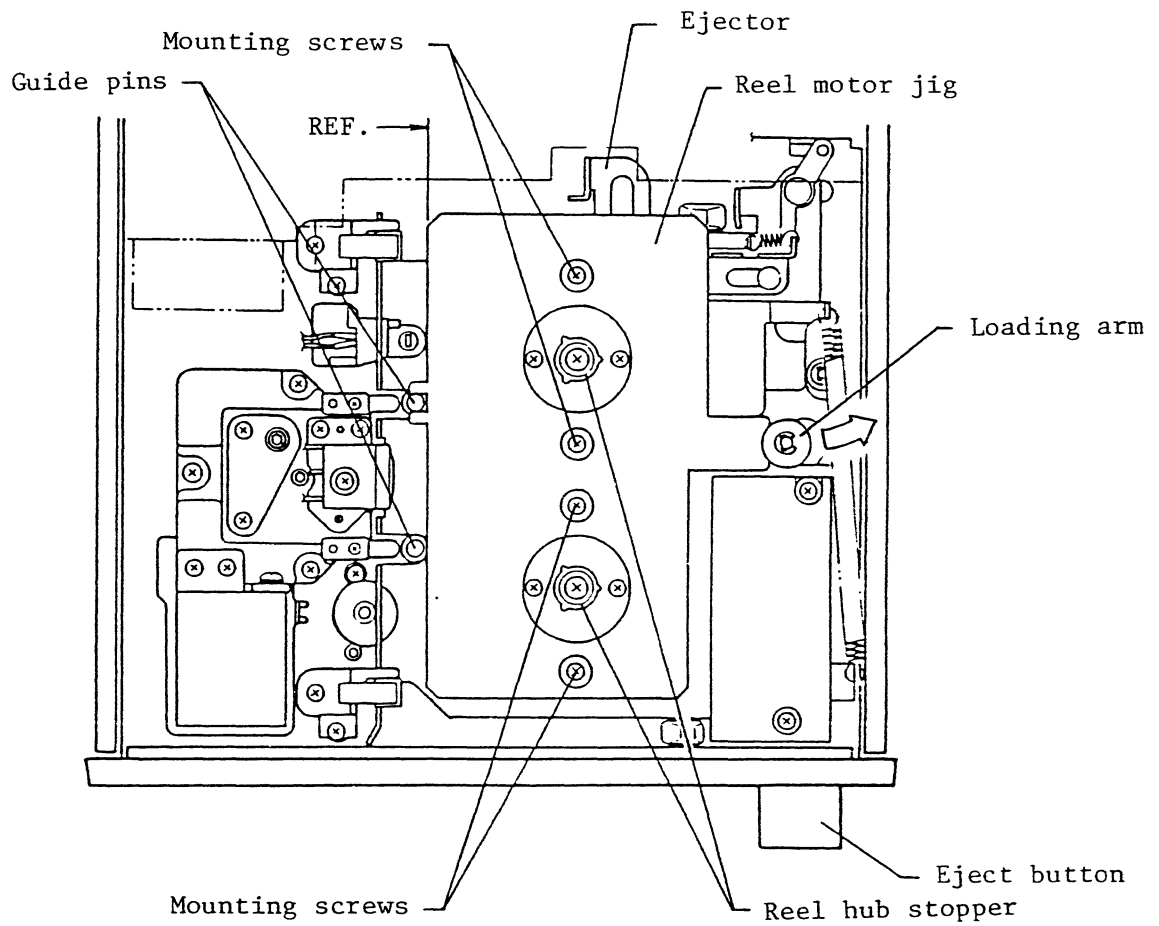

Fig.415 Positional adjustment of reel motor (F),(R) Ass'y
- (b) Loosen the two mounting screws each of the reel motor (F), (R) Ass'y until the reel motor can be moved easily (Fig. 415).
- (c) Set the reel motor jig. While pushing the loading arm in the arrow direction, put the reel motor jig on the MTU body with the guide pins as reference, and return the arm gradually. In this case, check if the reference plane touches the two guide pins (Fig. 415).